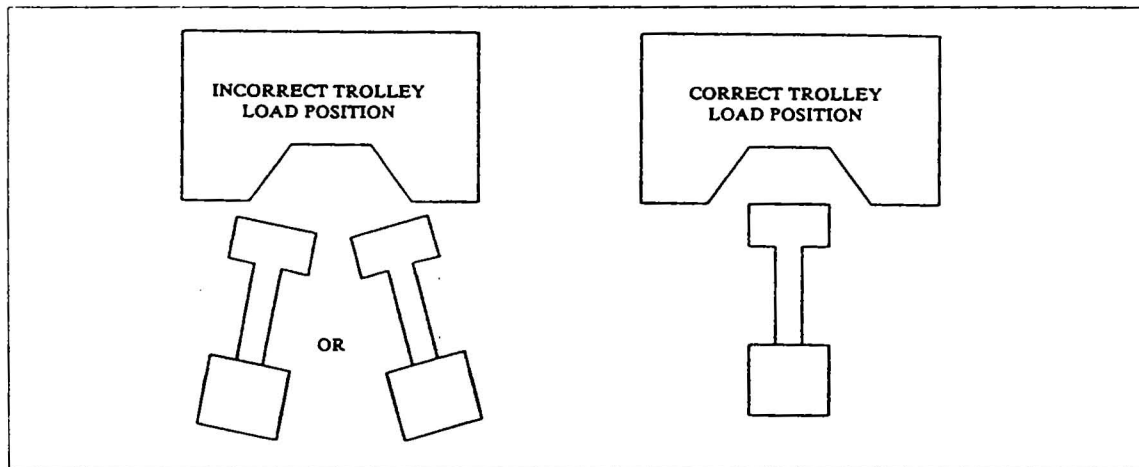

Fig. 5-14 Correct and Incorrect Trolley Load Position
4. To reposition the trolley home sensor, loosen its two position screws. Move the home sensor forward toward the trolley home flag if the trolley travels short of the perpendicular position relative to the indexer. Move the home sensor away from the trolley home flag if the trolley travels beyond the perpendicular position relative to the indexer (See Fig. 5-14)